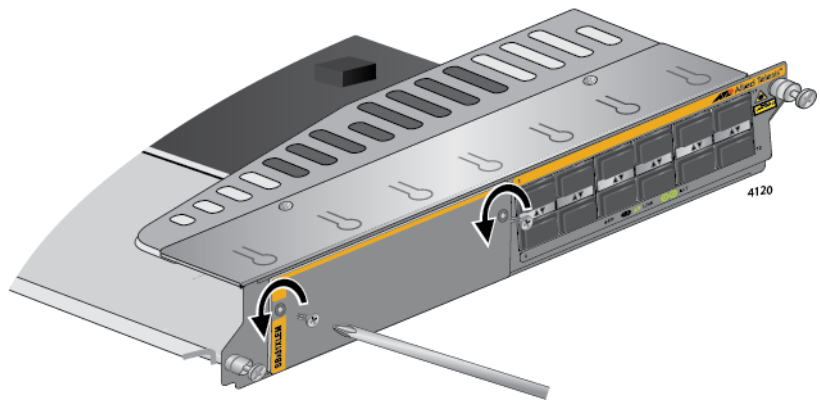

Figure 77. Removing the Screws on the Blank Slot Cover on the AT-SBx81XLEM Line Card
4. With a #2 Phillips-head screwdriver, remove the two screws that secure the blank slot cover to the card. Refer to Figure 77.